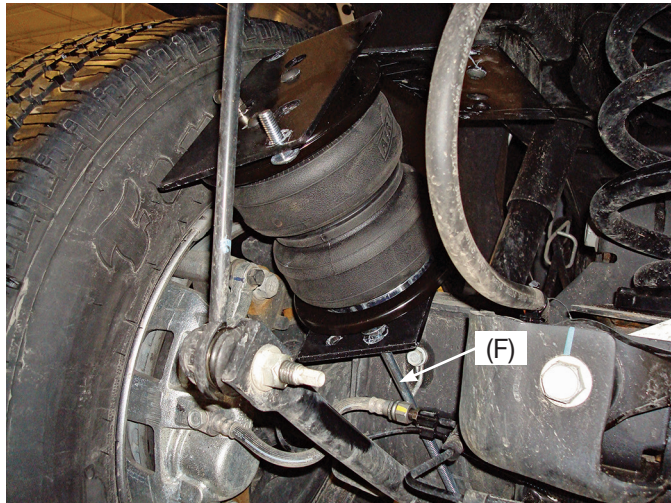

fig. 15
1. With the axle slightly hanging, set the left (driver's) side assembly on the axle, making sure that the carriage bolt (F) goes in between the brake line and the axle (Fig. 15).